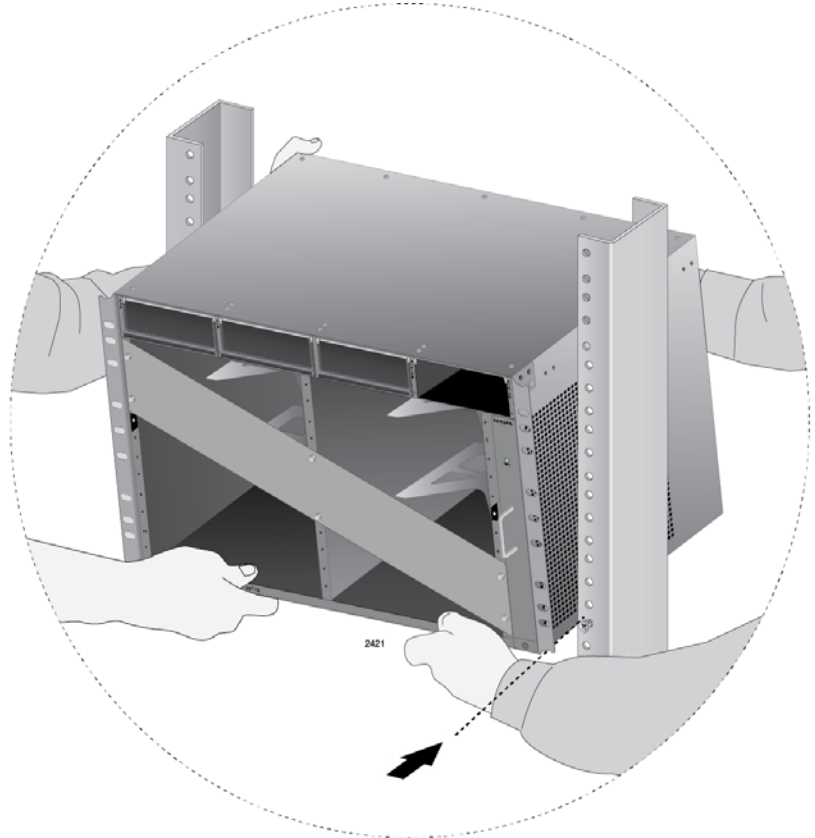

Figure 39. Lifting the AT-SBx8112 Chassis into the Equipment Rack
2. Do not mount any other equipment within 152.4 mm (6") above this space during installation. This additional vertical space is temporary and allows you enough room to lift and tilt the chassis into its position in the equipment rack without hitting other equipment, as shown in Figure 39 on page 111. You may use this additional space for other network equipment after the chassis is installed.
1. While facing the front of the chassis, tilt the top of the chassis toward you, as shown in Figure 39 on page 111.
2. Lift the AT-SBx8112 Chassis into the equipment rack and set the bottom of the equipment rack brackets firmly on the two equipment rack screws you installed in “Preparing the Equipment Rack” on page 103, as shown in Figure 39.